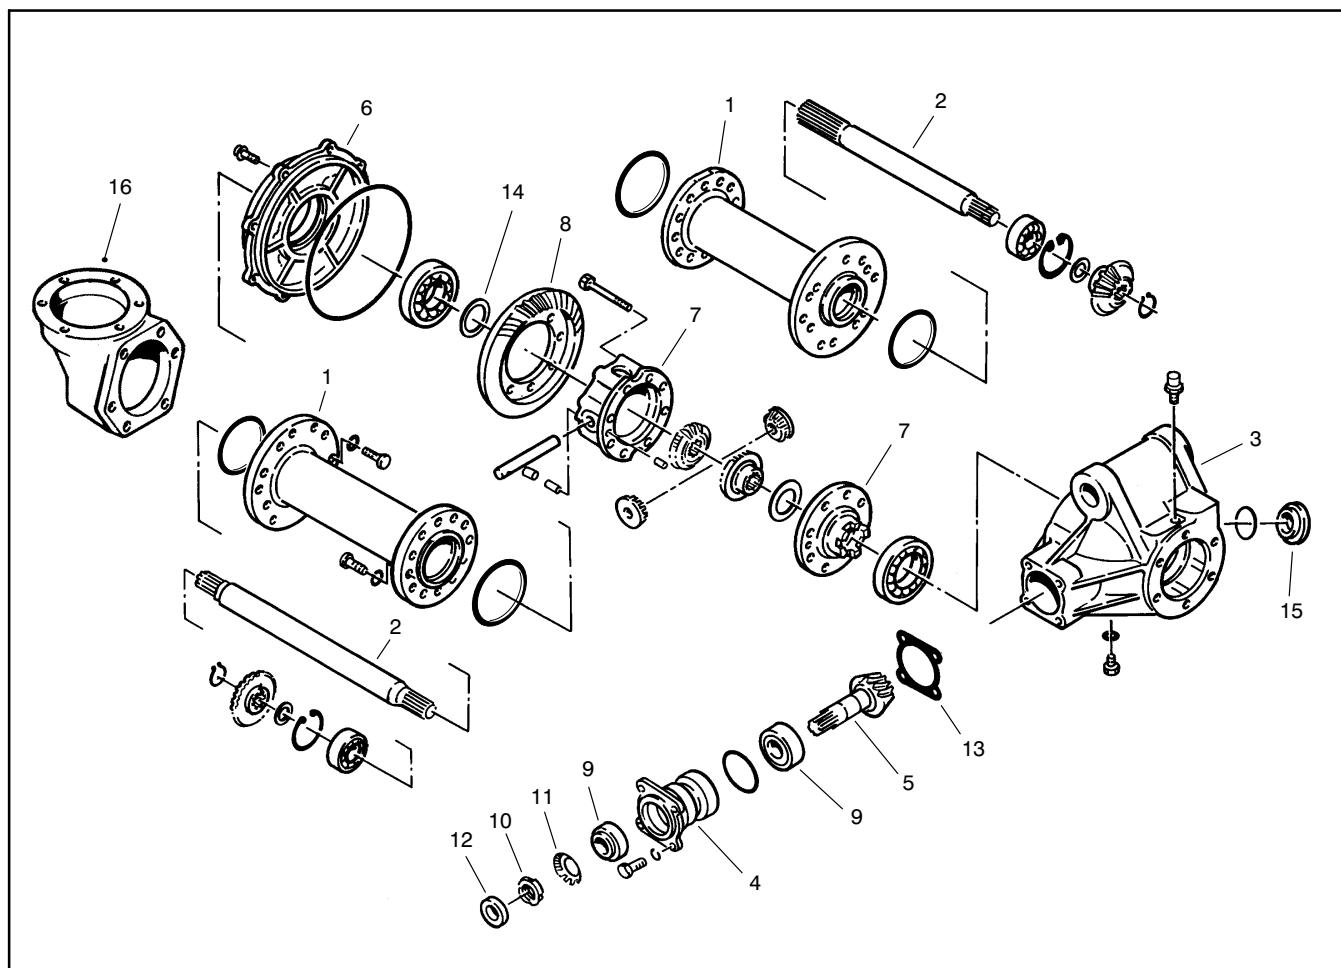

Figure 11
1. Remove axle tube bolts. Separate axle tubes and axles from differential housing (Fig. 11).
5. Remove differential gear case from differential housing (Fig. 11).
1. Assemble differential gear case (Fig. 11). Use medium Loctite thread locker on gear case bolts and tighten evenly to 20 to 24 ft-lbs (27 to 33 Nm).
2. Assemble pinion gear and pinion gear case (Fig. 11). Tighten pinion nut to pre-load bearings. Pinion gear should require 2 to 5.5 in-lbs (0.23 to 0.62 Nm) torque to rotate. Once correct pre-load is set, bend tabs of lock washer and install oil seal.
4. Adjust pinion gear to ring gear backlash (see "Pinion Gear to Ring Gear Engagement" in this section of this manual). Backlash can be checked by removing the differential inspection cover (Fig. 11).